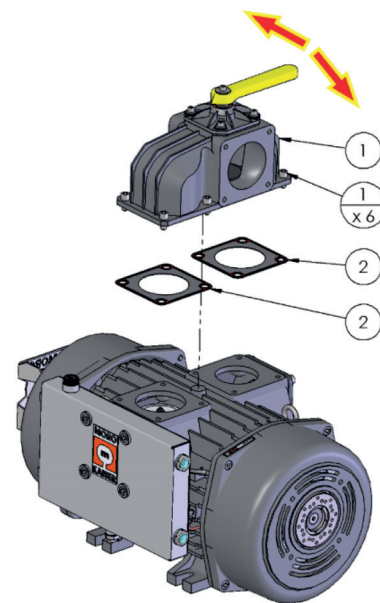

Fig. G.11 - Four-ways valve screw adjustment
- Remove and replace the sealing gasket **pos.3 Fig. G.11**.